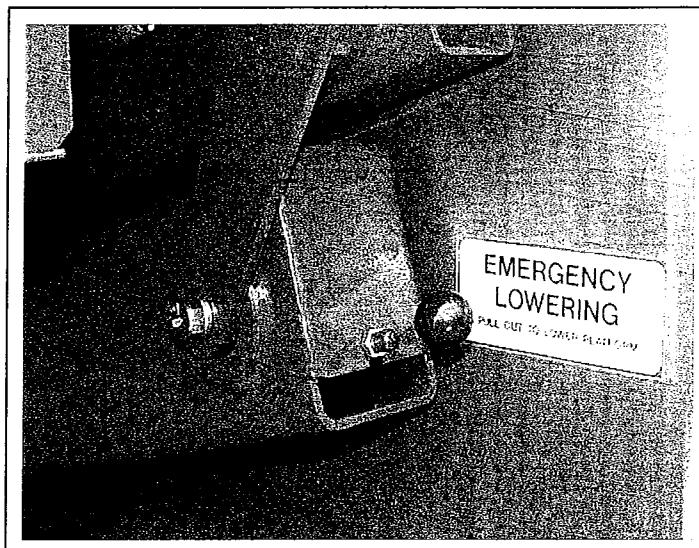

Figure 2-4: Emergency Lowering Valve Knob
14. Pull out on the emergency lowering knob (Figure 2-4) to check for proper operation. Once the platform is fully lowered, release the knob.
The emergency lowering valve knob is located at the front of the chassis (Figure 2-4).